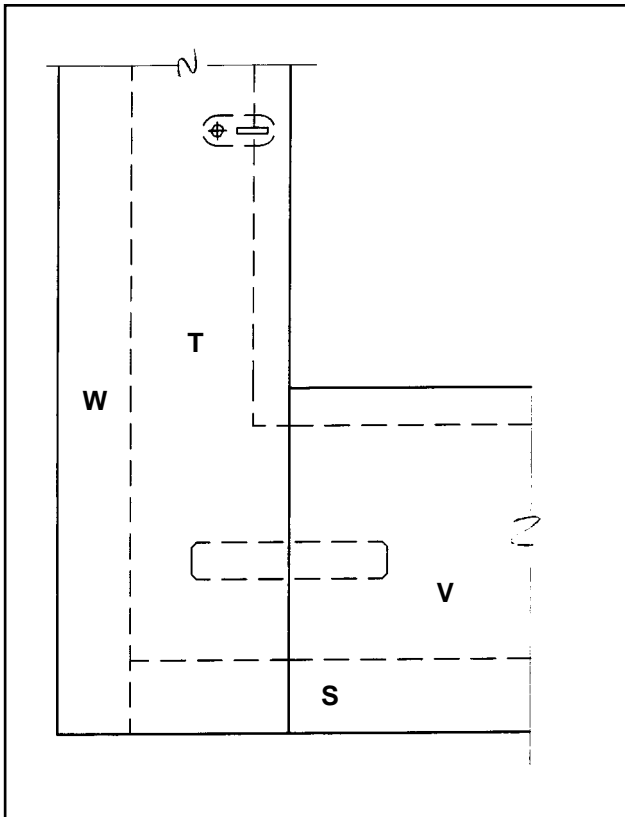

Figure 3
9. Use 1 1/4" finish nails and glue to assemble board S to board W. Refer to Isometric and Figure 3.